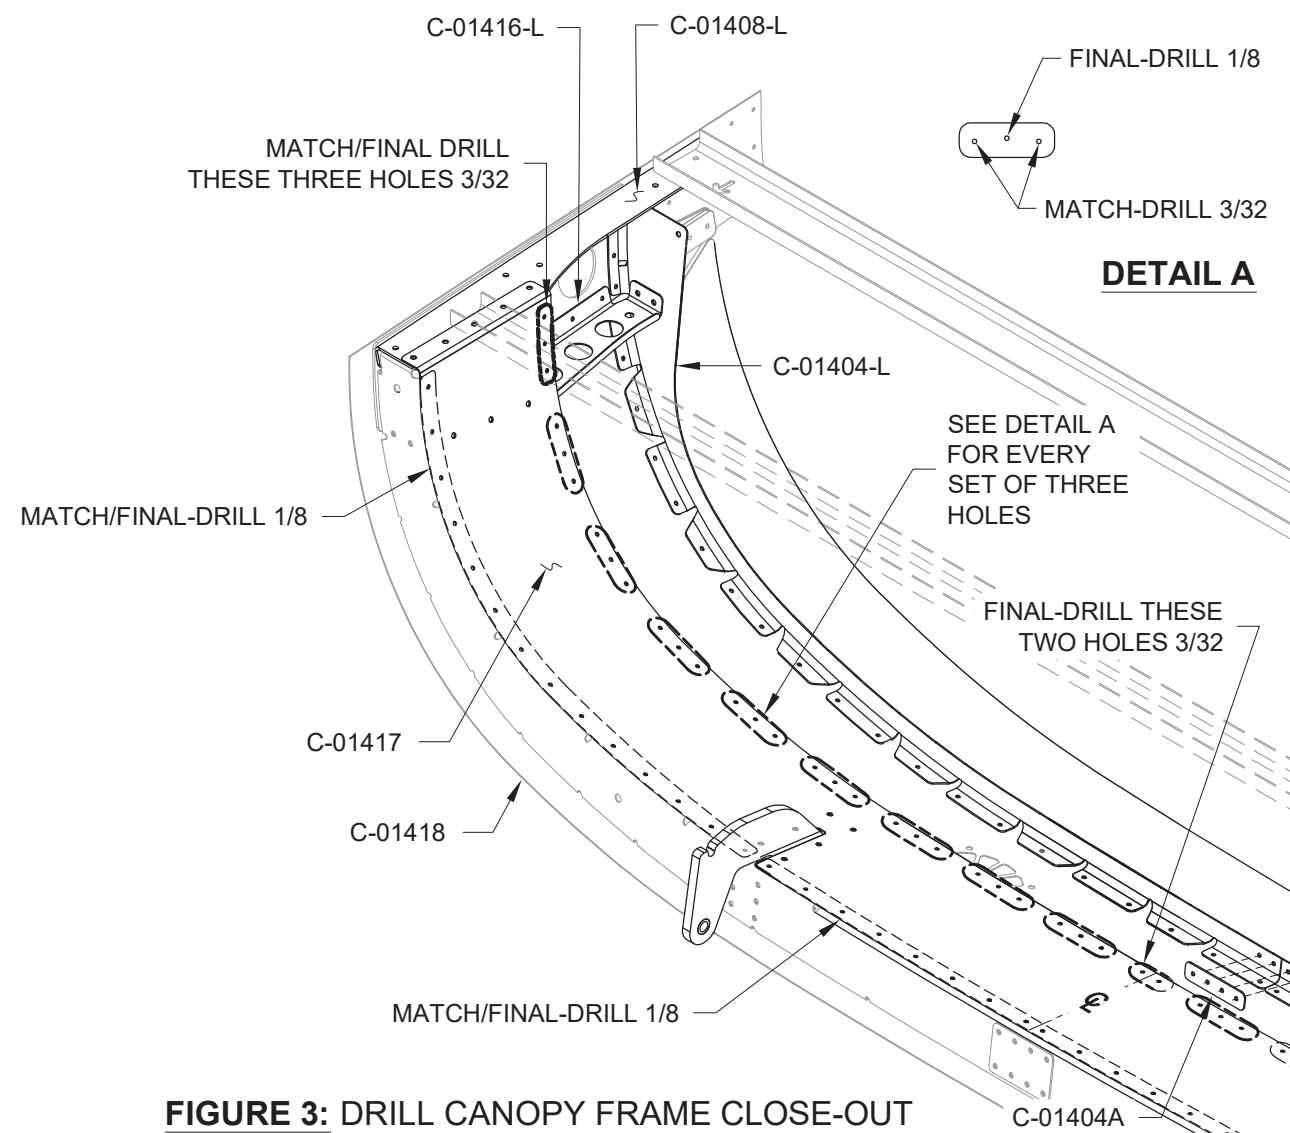

FIGURE 3: DRILL CANOPY FRAME CLOSE-OUT
Step 12: As required, match-drill or final-drill the holes in the C-01417 Canopy Frame Close-Out into the Canopy Assembly as shown in Figure 3. Begin drilling from the centerline and work symmetrically outboard.